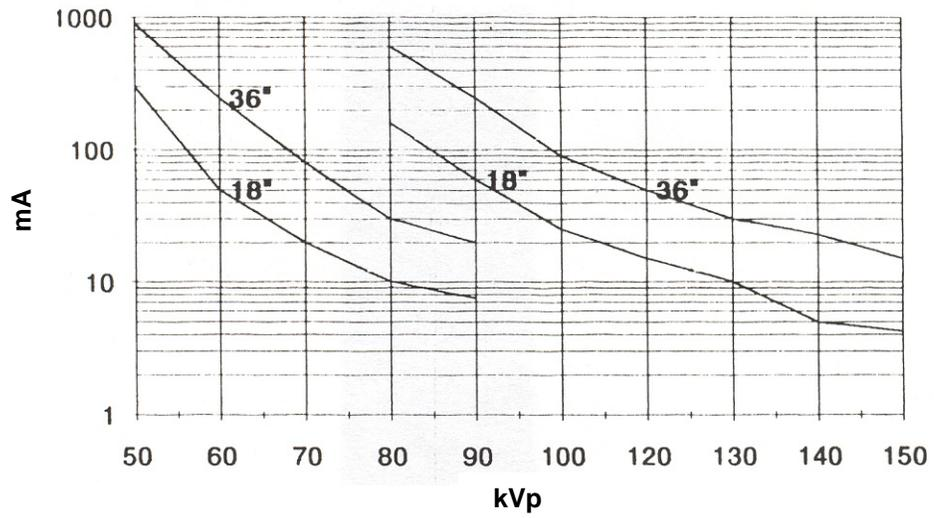

Figure 1-2. mAs vs. kVp, Minimum Requirements (Typical Single Phase X-ray Unit)
mAs Requirements	See Figure 1-2
The curves in Figure 1-2 (see Section 1-2, Specifications) are provided as guidelines for selecting the mAs required for a particular kVp measurement. Any mAs beyond the required amount is not used in the measurement.
The curves in Figure 1-2 (see Section 1.2, Specifications) are derived from single-phase measurements. Three phase machines generally require 70% of the mAs determined from the curves.
2. Determine the minimum mAs requirements for the kV from Figure 1-2 (see Section 1.2, Specifications).